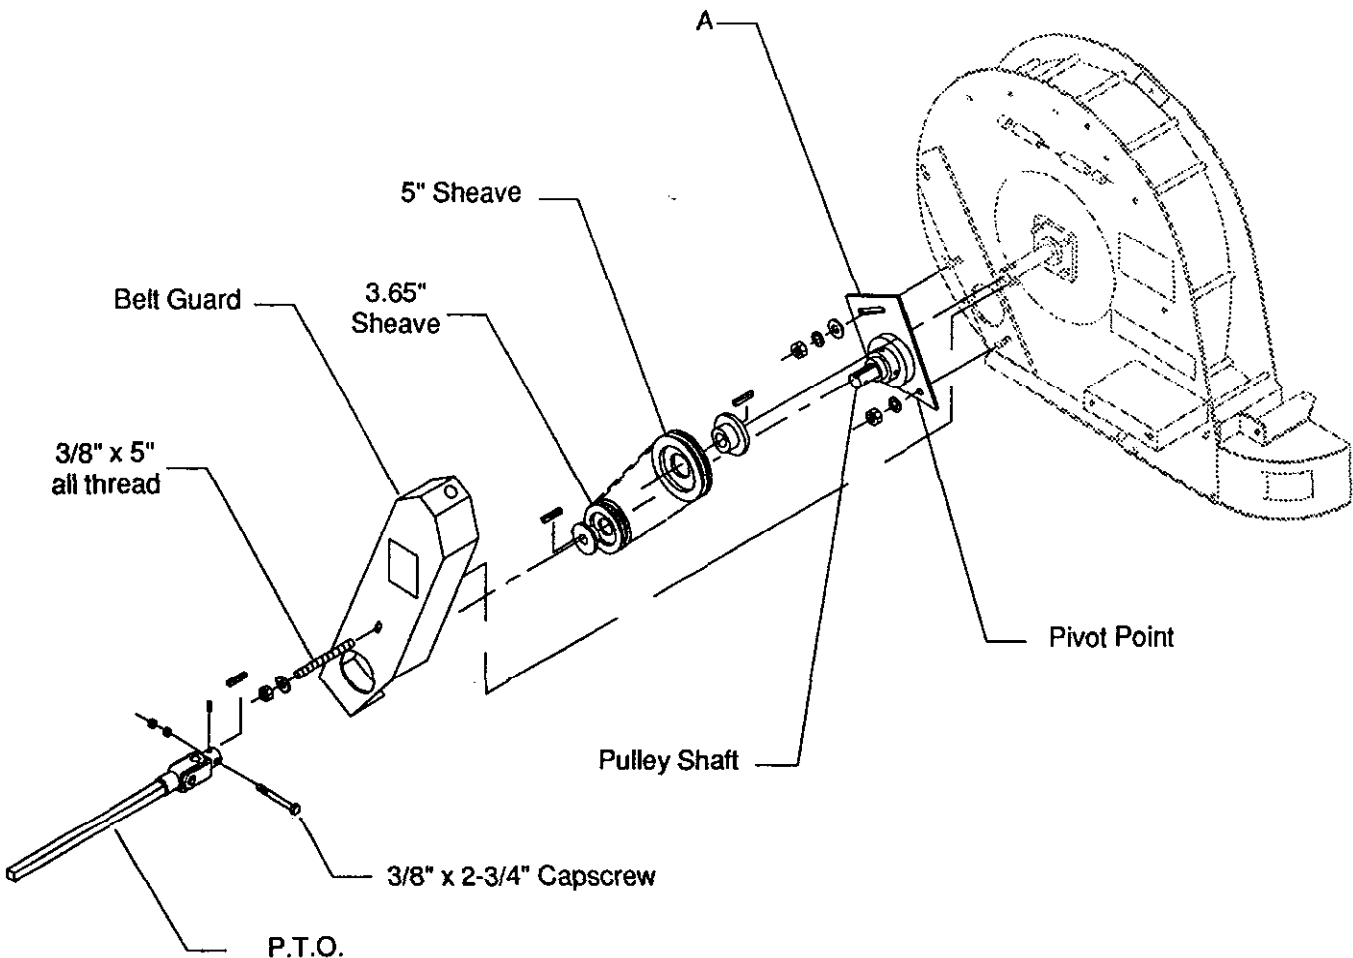

Figure 1
1. Mount the bearing mount assembly (A) to the rear housing as shown in Fig. 1. Fasten the bottom bolt with a 1/2" lock washer and nut. Tighten but leave nut loose enough to pivot. Fasten the top bolt with a flat washer, lock washer and a nut. Leave nut loose.
5. Pivot the bearing mount assembly (A) on the bottom slot until proper tension is achieved. The
7. Mount the belt guard as shown in Fig. 1. Fasten securely.